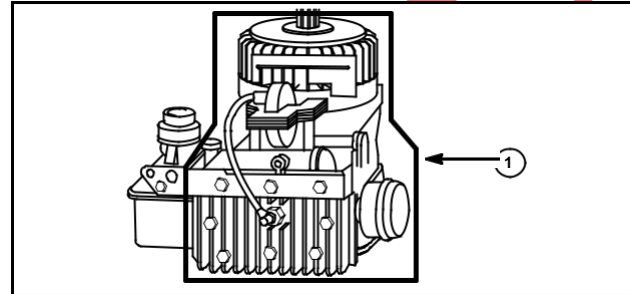

Fig. 5
Grass particles, chaff or dirt can clog the air cooling system. Continued operation with a clogged cooling-system can cause severe overheating and possible engine damage. Figures 5, (vertical crankshaft model), and 6, (horizontal crankshaft model) show the blower housing removed and areas to be cleaned (1). This should be a regular maintenance operation, performed yearly or every 100 hours, whichever comes first. Clean more often if necessary.